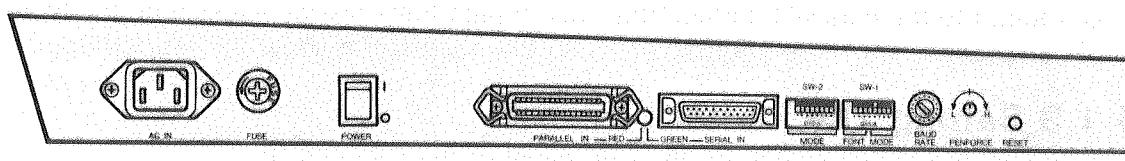

Fig. 5-4
- Connect an RS-232C interface of the computer and the SERIAL IN of the DPX-3300 (see Fig. 5-4) with a cable. For the cable, see Table 5-2 to select a cable appropriate for your computer.